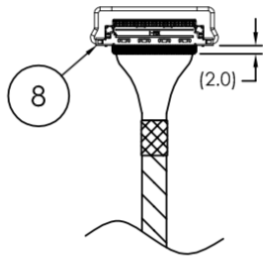

Fig. 1 Applying UV resin
1. Apply UV resin at the end of connector to cover cables both sides of the cable assembly (Fig.1).